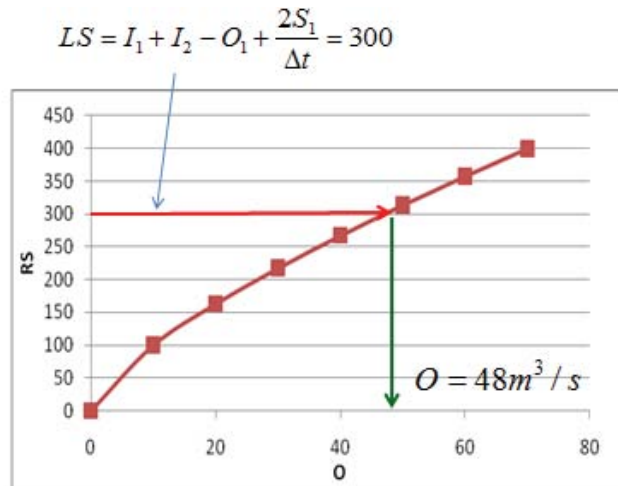

Figure 7 Curve RS versus O
Since Eq(8) is nonlinear, the outflow can be solved either by a graph method or MATAB. To use the graph method, a curve from the following equation is plotted as in Figure 7.
For each time step, Eq (8) is used to derive RS, and then the outflow O can be found from the curve if Figure 7.